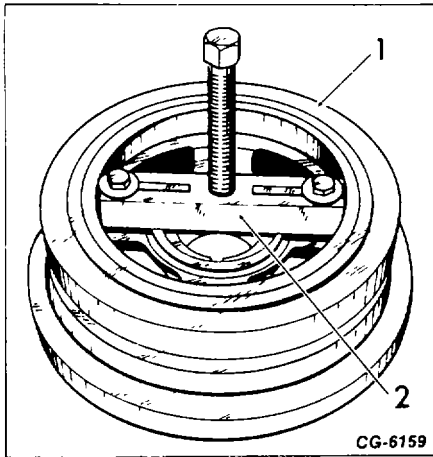

Figure 9. - Late Model Vibration Damper and Puller for Agricultural Applications
- c. Late model Agricultural equipment requires the puller 04-33-3 (2, Fig. 9) to remove the vibration damper (1) as shown.